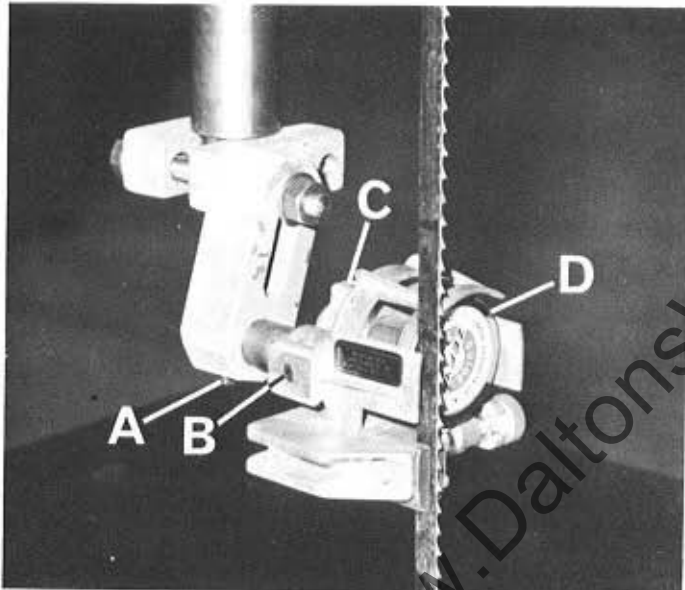
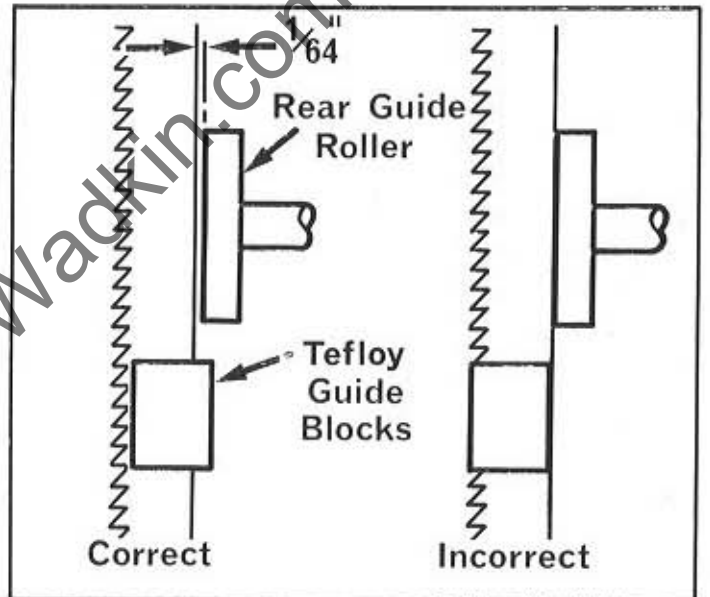

FIG 13
FIG 14
3. Loosen allen screws "A", "B", and "C", FIG.13, then position guide parallel to table top ensuring sawblade is central in gap. Lock screw "B" then move guide unit either forward or back until saw teeth protrude slightly from front of support blocks as shown in FIG.14.
When positioned correctly, relock screw "A", FIG.13, ensuring guide unit is parallel to table top.
4. Move guide roller "D", FIG.13, to position shown in FIG.14. When set correctly, relock screw "C".